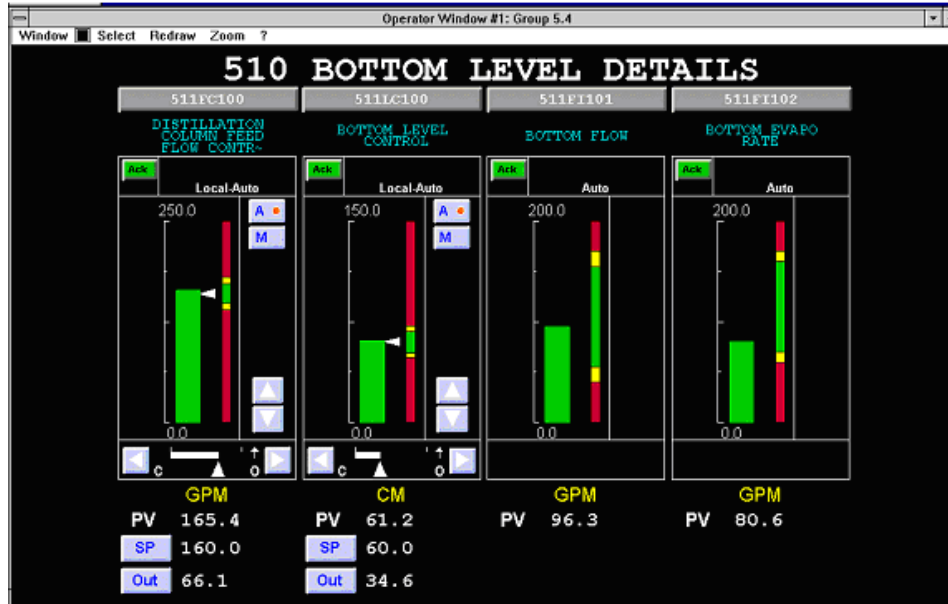

Figure 3. Group Display Showing Process Data
**GROUP DISPLAY:** provides an operational overview of 4, 6 or 8 points simultaneously (Figures 3 and 4). This may be a subdivision of a specific unit operations area or data related to a specific process line or piece of production equipment. The group includes a 10-character tag name for each point within the group. All process control actions (AUTO, MANUAL, REMOTE, LOCAL, Setpoint Changes, etc) and alarm acknowledgement for points within a Group, can be performed from the Group display on a point-by-point basis. From the Group display, the operator may go directly to the corresponding Point Display, the related Summary display, or to the Next or Previous Group display.